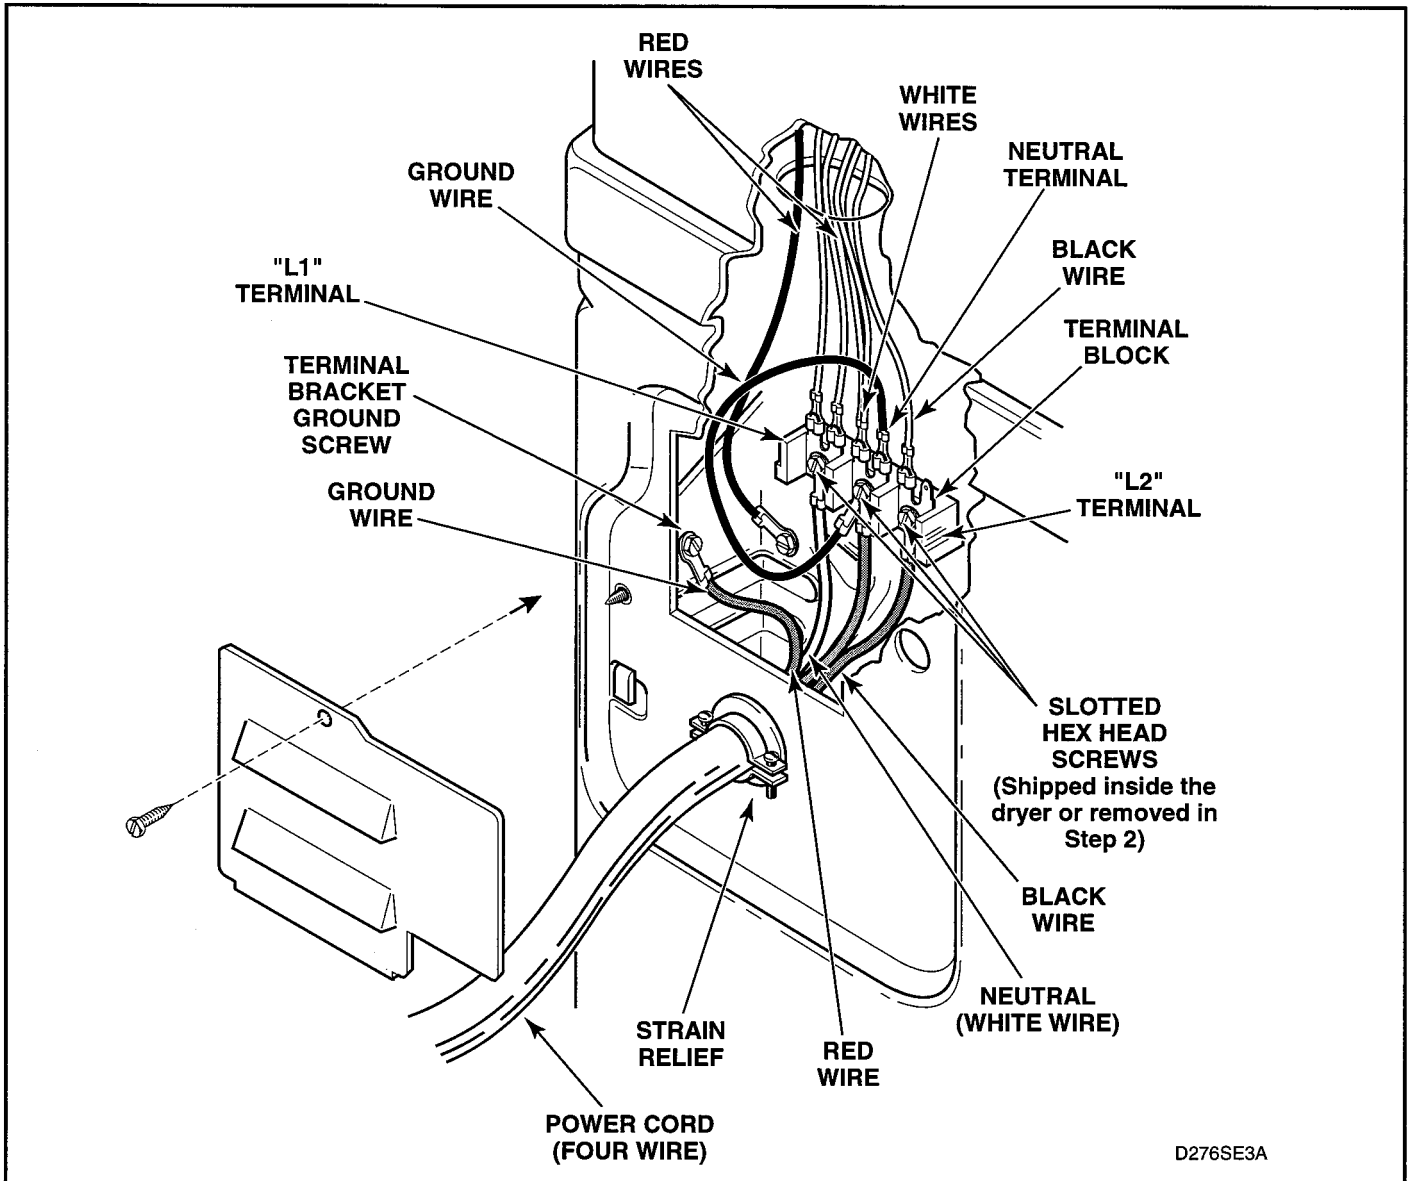

Figure 9-3
- f. Insert the end of the power cord and strain relief through the hole in the rear of dryer cabinet. See figure 9-3. Install the strain relief nut from the inside of the cabinet and tighten firmly.
NOTE: When installing the white to white wire, loop the free eyelet end of the ground wire (from Step d) and place it together with the white wire. Attach both wires to the neutral (center) terminal on the terminal block. See figure 9-3.